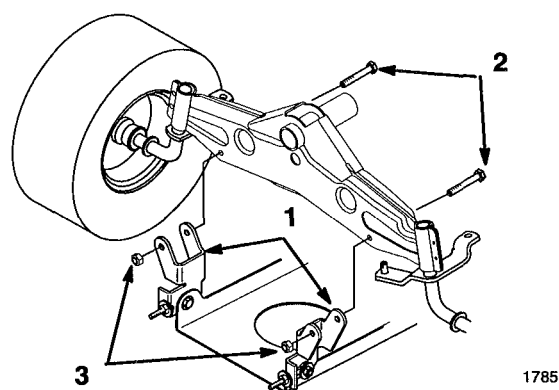

Figure 5
4. Install the mower pivot mount brackets onto the front axle with bolts and lock nuts (Fig. 5). Tighten fasteners.